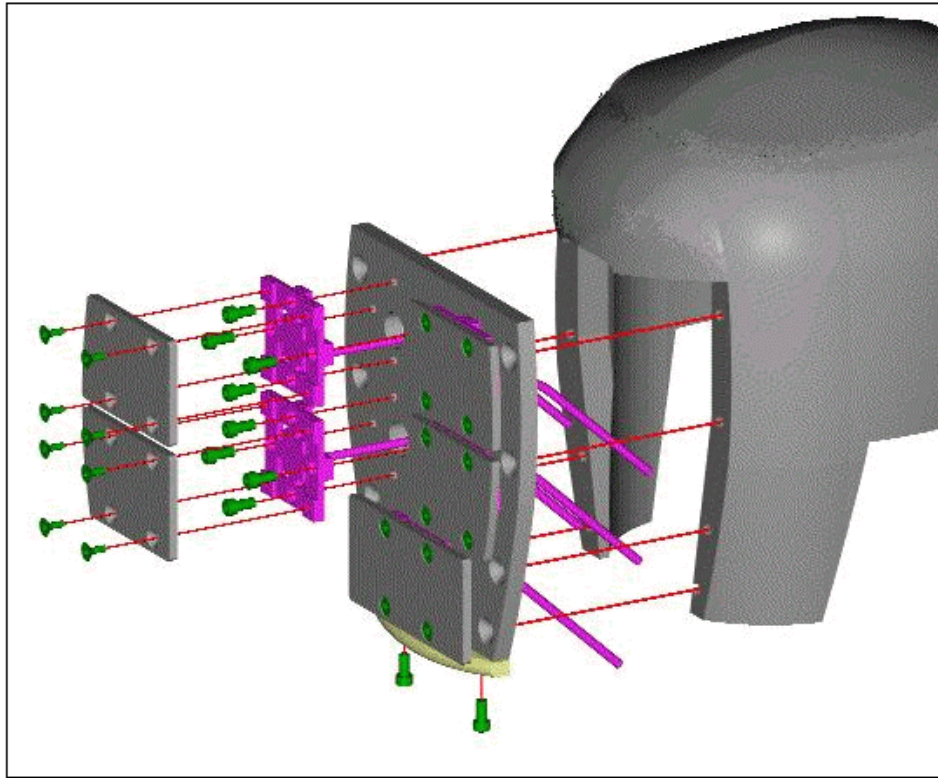

Figure 3.2- Exploded face assembly
The parts list as well as all quantities for the face assembly are listed in Appendix I - Bill of Materials under the face section. Refer to drawing T1FCM000 in the THOR drawing set for a detailed mechanical assembly drawing. **Figure 3.2** is a drawing of the exploded head assembly and hardware.
4. Locate the plastic chin guard and attach it to the face plate with the angled side downwards and out using two #10-32 x 3/8" SHCS (1/8"). Refer to **Figure 3.2** for an illustration.